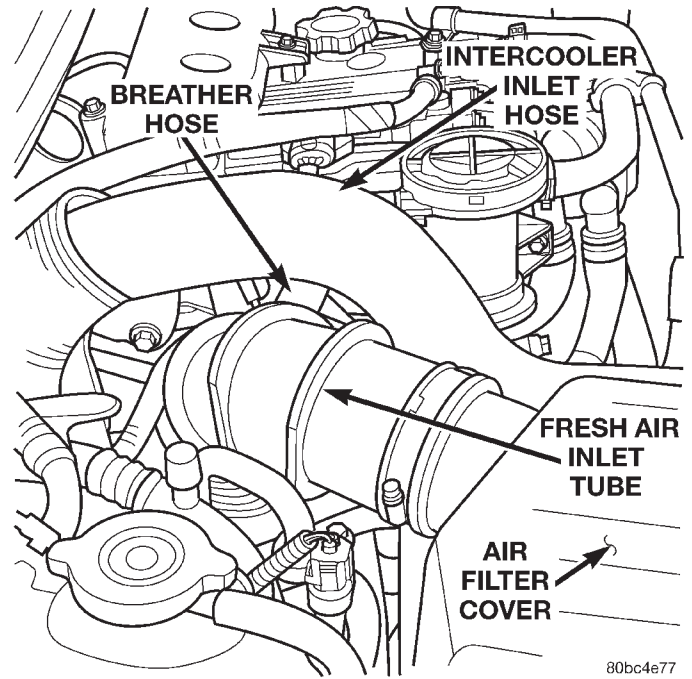
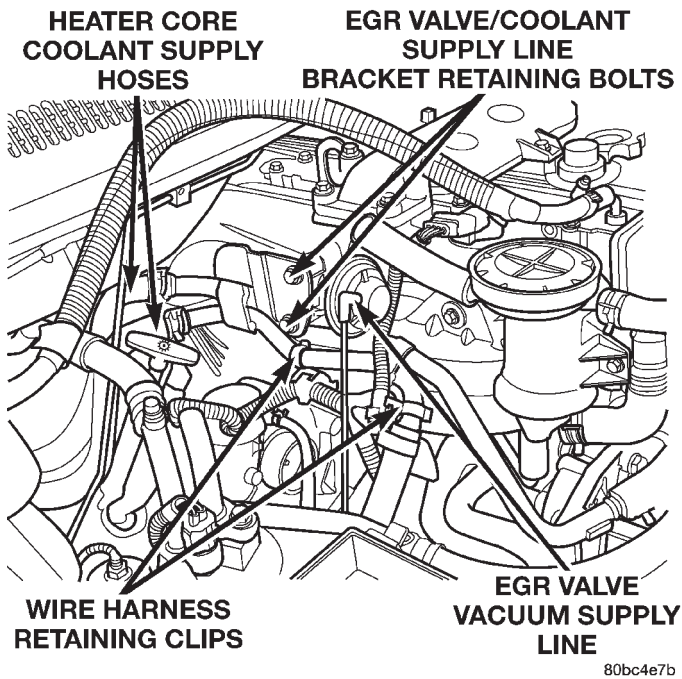

Fig. 44 Air Intake Hoses
Fig. 43 3.1L Diesel Engine
(15) Install the front (front of engine) heater core coolant supply hoses on the coolant line assembly and install the line assembly on the engine. Torque the (3) retaining bolts to 27 N·m (20 ft. lbs.) (Fig. 43).
(16) Connect the crankcase vapor supply and return hoses on the oil separator.
(17) Install the oil separator retaining bolts.
- (18) Install the heater core coolant supply hoses on the coolant line assembly (Fig. 43).
- (19) Clip the wire harness on the coolant supply lines (Fig. 43).
- (20) Install the EGR vacuum supply hose on the EGR valve.
- (21) Install the fresh air inlet tube assembly on the turbocharger. Clip the air filter cover in position and connect the breather hose (Fig. 44).
- (22) Install the intercooler inlet hose on the vehicle (Fig. 44).
- (23) Raise the vehicle on the hoist.
- (24) Install the turbocharger oil return hose on the turbocharger.